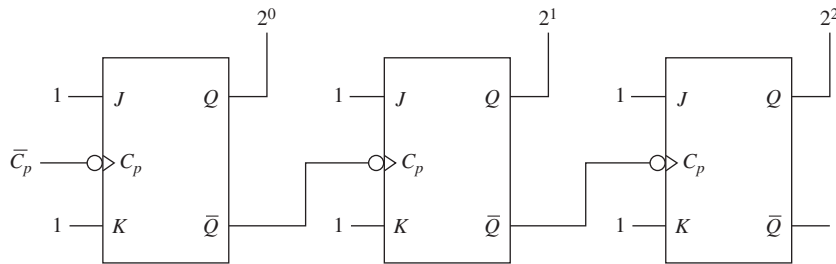

Figure P12-15
- C** **12-15.** Sketch the $\overline{C_p}$, 2^0 , 2^1 , and 2^2 output waveforms for the counter shown in Figure P12-15. (Assume that flip-flops are initially Reset.)